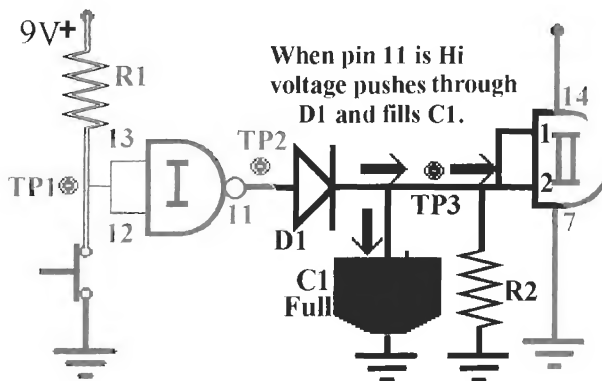

Figure L19-2
2. Measure the voltage at TP 3 with the push button held closed and record your results. Figure L19-2 shows that as long as the NAND gate's output at pin 11 is high, the voltage and current push through D1 and does two things. It influences the inputs of the second NAND gate and fills the capacitor.